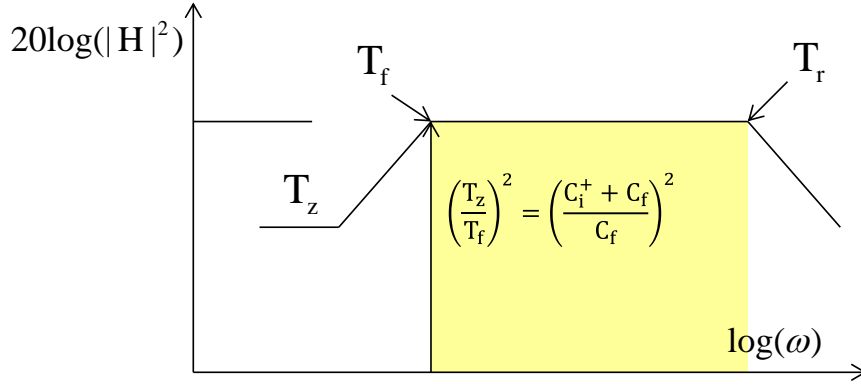

Figure 12: Bode plot of transfer function H_{IR} , case with T_r
The frequency range between $1/T_f$ and $1/T_r$ (yellow area in Figure 12) has the largest contribution to the integral. In this frequency region we can simplify the transfer function (34) as follows: